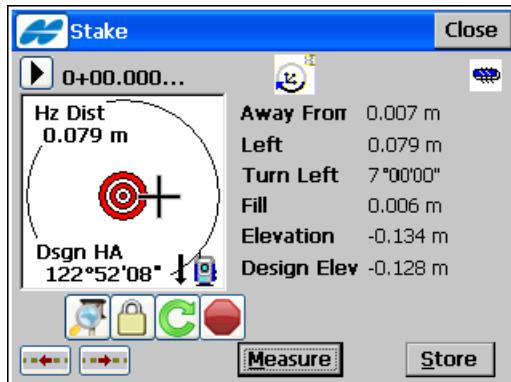

Figure 10-16. Stake
- **OK** – saves the changes and opens the **Stake** screen (Figure 10-16).
The **Stake** screen (Figure 10-16) reflects the progress of the stakeout, displaying the current station (in the upper-left corner of the screen),